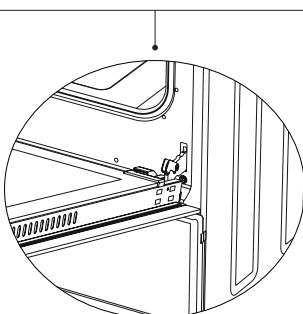

Figure 14.2
2. Bring the hinge lock to the widest angle as shown in figure 14.2. Bring both hinges connecting the oven door to the oven to the same position.